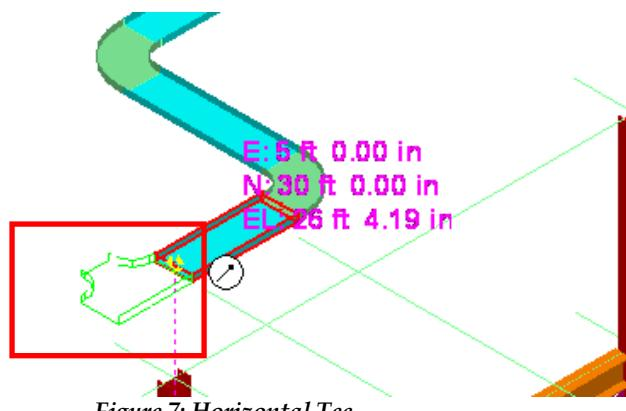

Figure 7: Horizontal Tee
- After selecting the **Part Number** in the **Select Part** dialog box, click **OK**. The horizontal tee in the graphic view resembles the highlighted section of Figure 7.